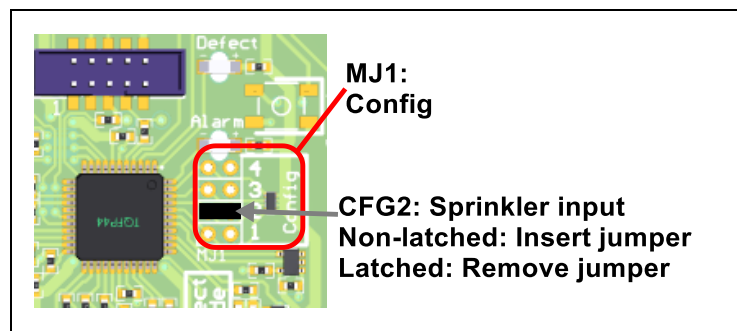

Figure 2-1: Configuring the SPR circuit
- The SPR input has two operating modes, latched and non-latched (NZS 4512:2020), set by inserting or removing a jumper across CFG2 (refer to Figure 2-1)